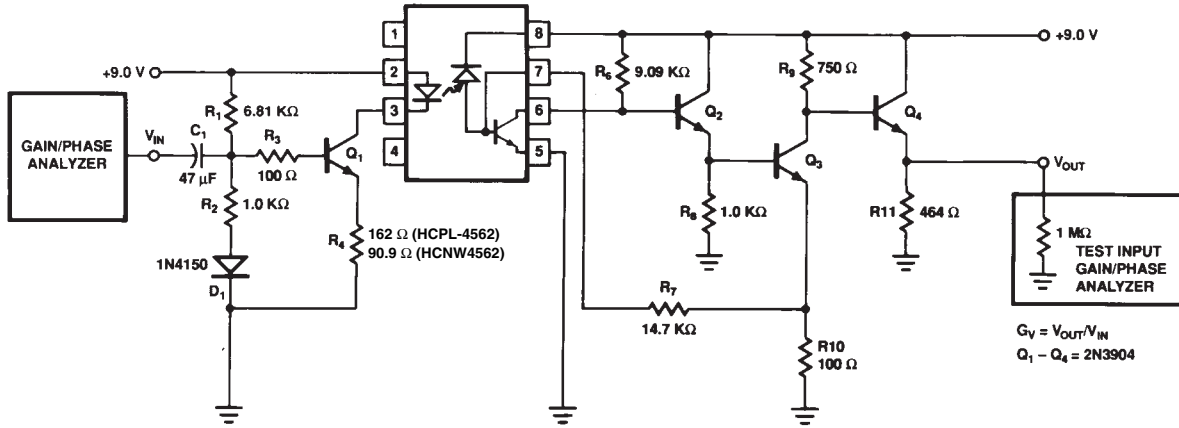

Figure 1. Gain and Bandwidth Test Circuit.
- When used in the circuit of Figure 1 or Figure 4; $G_V = V_{\text{OUT}}/V_{\text{IN}}$; $I_{\text{FQ}} = 6 \text{ mA}$ (HCPL-4562), $I_{\text{FQ}} = 10 \text{ mA}$ (HCNW4562).